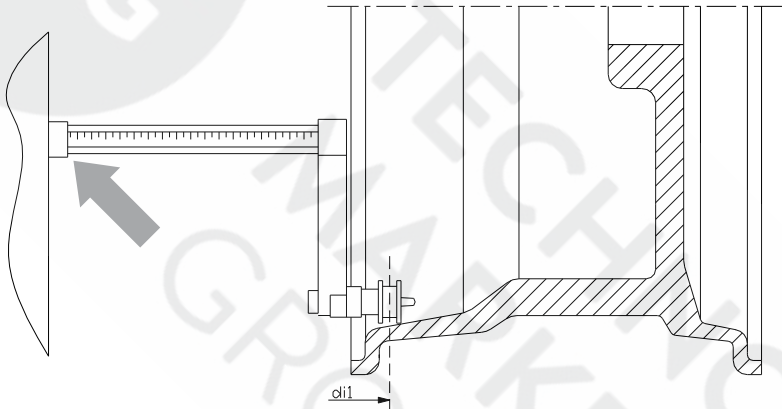

Figure F3.5 - Manual Acquisition of the internal plane distance in the ALS2 Programm Type
6. Extract the distance sensor and place it on the plane chosen for the external weight as shown in Figure F3.5;